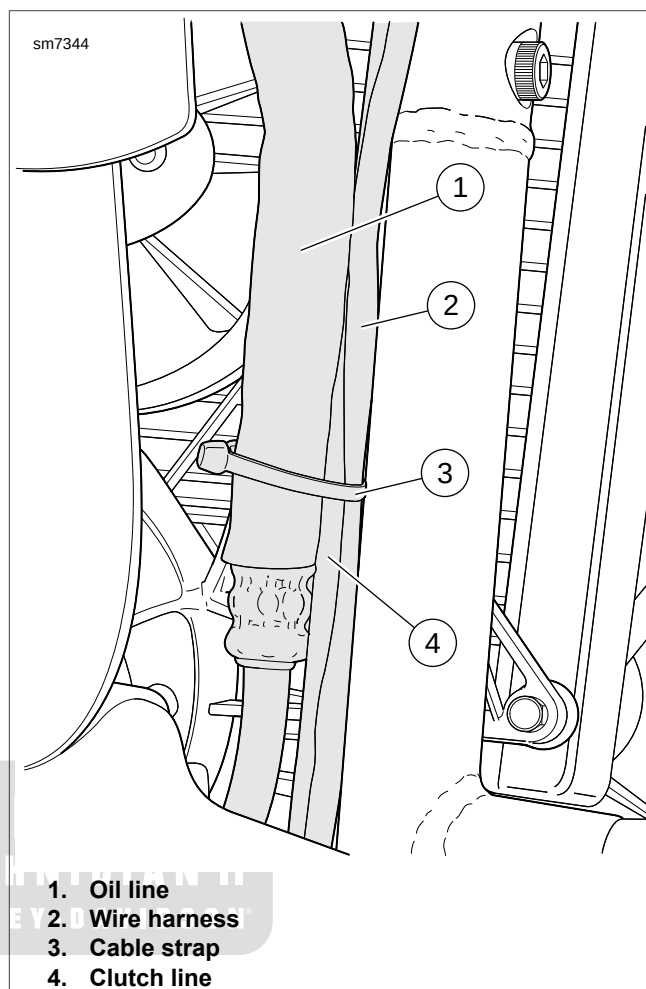

Figure 2-28. Right Downtube Routing
4. See Figure 2-28. Remove cable strap (3).
6. See Figure 2-28. Install cable strap (3) to secure oil line (1), wire harness (2), clutch line (4) and rear brake line (not pictured).